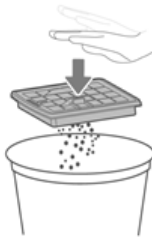

Fig.17
- d) As in fig. 17, pat the dust filter slightly if it's covered of dust.